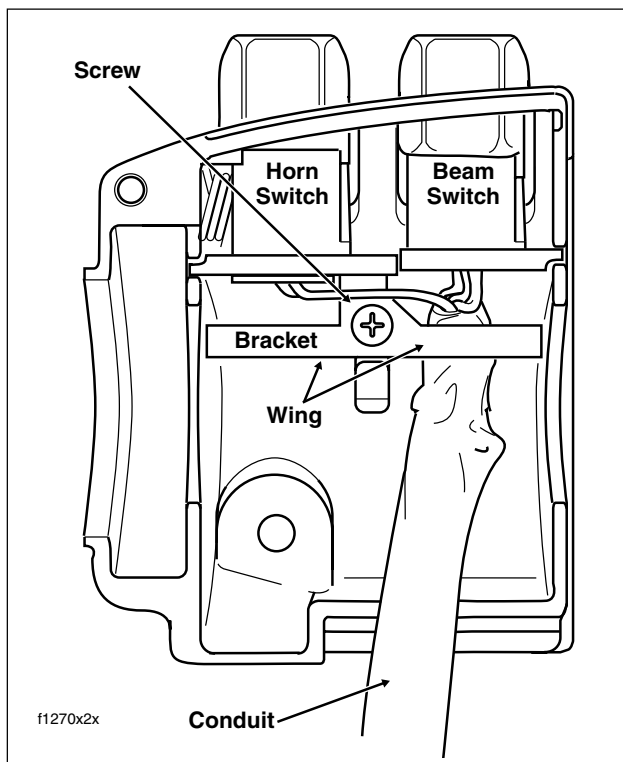
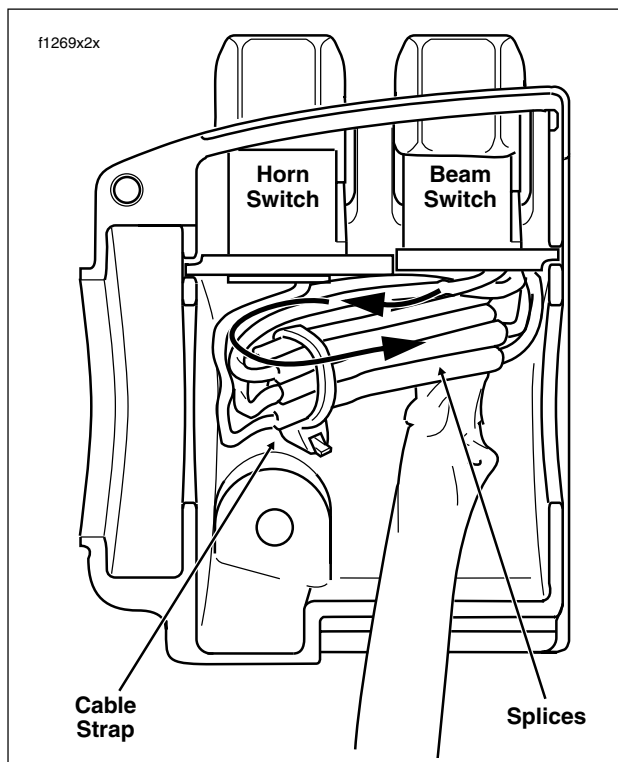

Figure 8-97. Upper Left Handlebar Switch Housing (Without Splices)
Figure 8-98. Upper Left Handlebar Switch Housing (With Splices)
1. See Figure 8-97. From inside the switch housing, remove Phillips screw to release the bracket. Remove the bracket and switch assembly from the housing.
6. Loop switch wires so that spliced lengths are positioned as shown in Figure 8-98. Route wires downstream of splices beneath wing on High/Low Beam Switch side of bracket as seen in Figure 8-97.
9. Install Phillips screw to secure bracket inside housing. Verify that wing on High/Low Beam Switch side of bracket captures edge of conduit as shown in Figure 8-97.
10. Securely tighten cable strap to draw splices to bracket. Remove any excess cable strap material. See Figure 8-98.